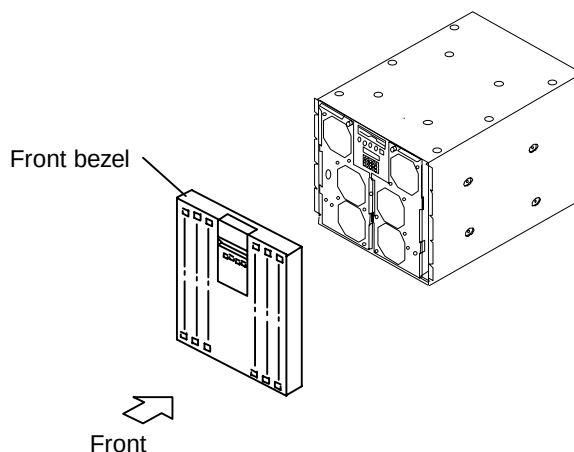

Figure 2.5.1 Attaching/Removing the Front Bezel
(1) Removing procedure (See Figure 2.5.1.)
- ① Hold the grooves located on both sides of front bezel and pull front bezel toward you to remove it.
(2) Attaching procedure (See Figure 2.5.1.)
- ① Mate the grooves of the front bezel with the guide plate of the subsystem, and secure front bezel by pressing its four corners.